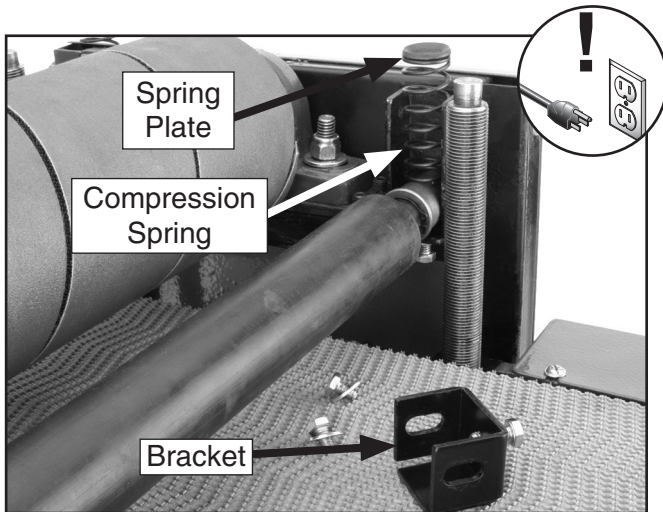

Figure 41. Rear pressure roller components.
- Remove the rear pressure roller (4 hex bolts and 4 flat washers) along with the brackets, compression springs, and spring plates shown in **Figure 41**.